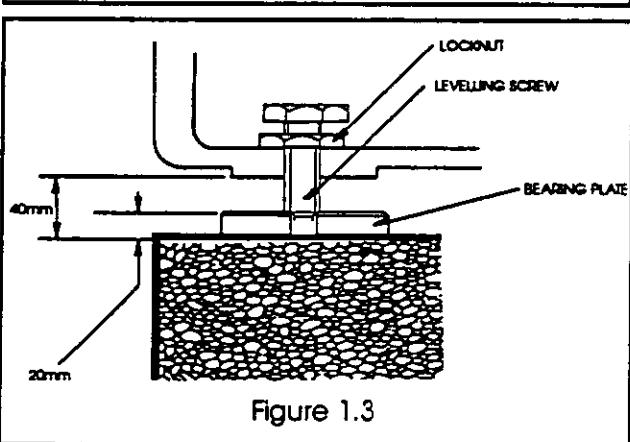

Figure 1.3
**NOTE:** Ensure the distance between the base and the floor is 40mm (1.57in.) see figure 1.3 (or 55mm for swarf management system machines).